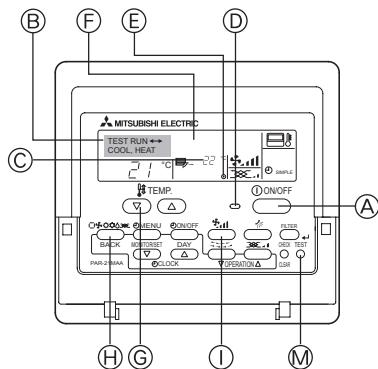

Fig. 6-1
6.2.1. Using wired remote controller (Fig. 6-1)